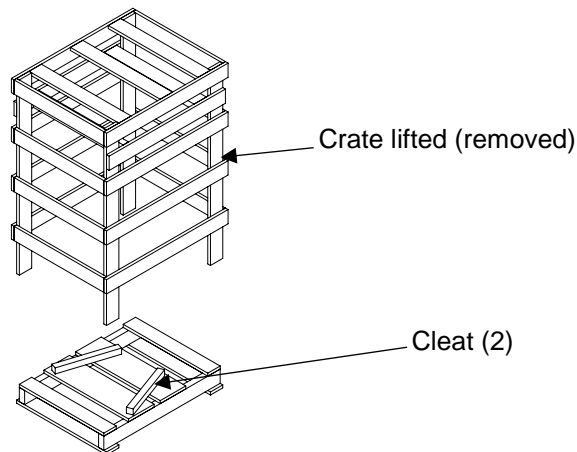

Figure 8: Uncrating
2. With the help of an assistant, lift crate from machine and pallet, being careful not to damage machine or loose parts (Fig. 8).